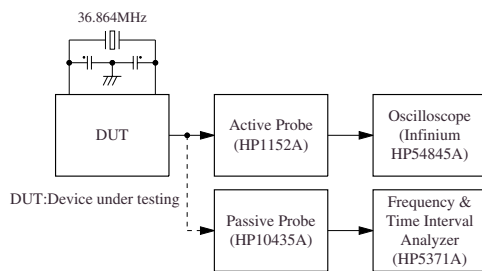

Figure 1. Measurement circuit 1
- The numeric values are measured values obtained using the circuit in Figure 1 and the NPC standard evaluation board.